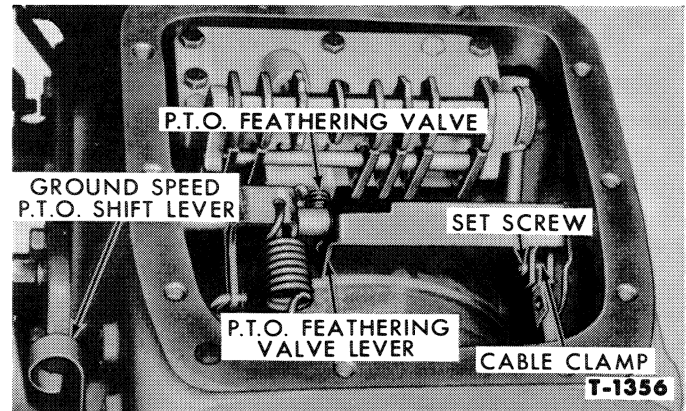

Figure 79—Adjusting the P.T.O. Interlock—Model 81
To prevent engaging both the ground speed P.T.O. and the engine P.T.O. at the same time, an interlock is provided, Figure 79. The interlock consists of a flexible cable, enclosed in a conduit joining the ac-
3. Loosen the set screw in the cable clamp, shown in Figure 79, and position the feathering valve with the valve in the "OUT" position.